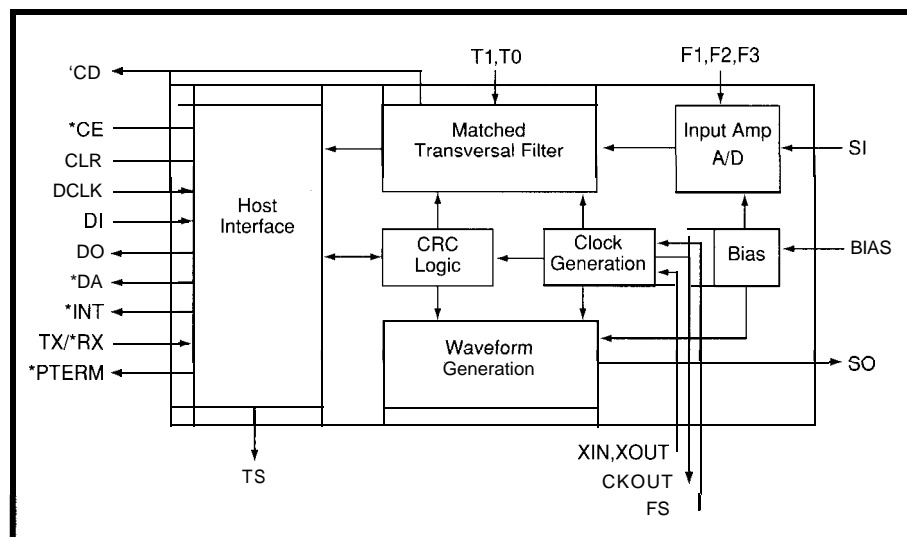

Figure 1—The CELinx chip handles all the physical layer details of a CEBus power line interface.
The four output control lines of the CELinx PL power line transceiver are meant to be interrupt inputs to the host processor. Carrier Detect (CD) indicates the correlation of a spread spectrum chirp and is used in collision detection. When the transceiver data buffer needs attention, Data Available (DA) is asserted. Each CEBus packet ends with a CELinx hardware-generated CRC code and the **Packet Terminate** (PTERM) condition. These three output lines are logically "ORed" for convenience to a single pin (INT) and connect to a single external interrupt. A block diagram of this device is shown in Figure 1.